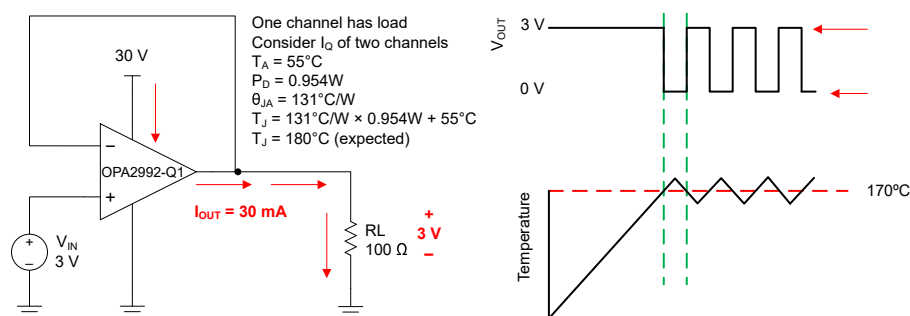

Figure 7-4. Thermal Protection
The internal power dissipation of any amplifier causes the internal (junction) temperature to rise. This phenomenon is called *self heating*. The absolute maximum junction temperature of the OPAx992-Q1 is 150°C. Exceeding this temperature causes damage to the device. The OPAx992-Q1 has a thermal protection feature that reduces damage from self heating. The protection works by monitoring the temperature of the device and turning off the op amp output drive for temperatures above 170°C. Figure 7-4 shows an application example for the OPA2992-Q1 that has significant self heating because of the power dissipation (0.954 W). In this example, both channels have a quiescent power dissipation while one of the channels has a significant load. Thermal calculations indicate that for an ambient temperature of 55°C, the device junction temperature reaches 180°C. The actual device, however, turns off the output drive to recover towards a safe junction temperature. Figure 7-4 shows how the circuit behaves during thermal protection. During normal operation, the device acts as a buffer so the output is 3 V. When self heating causes the device junction temperature to increase above the internal limit, the thermal protection forces the output to a high-impedance state and the output is pulled to ground through resistor R_L . If the condition that caused excessive power dissipation is not removed, then the amplifier oscillates between a shutdown and enabled state until the output fault is corrected. Please note that thermal performance can vary greatly depending on the package selected and the PCB layout design. This example uses the thermal performance of the SOIC (8) package.